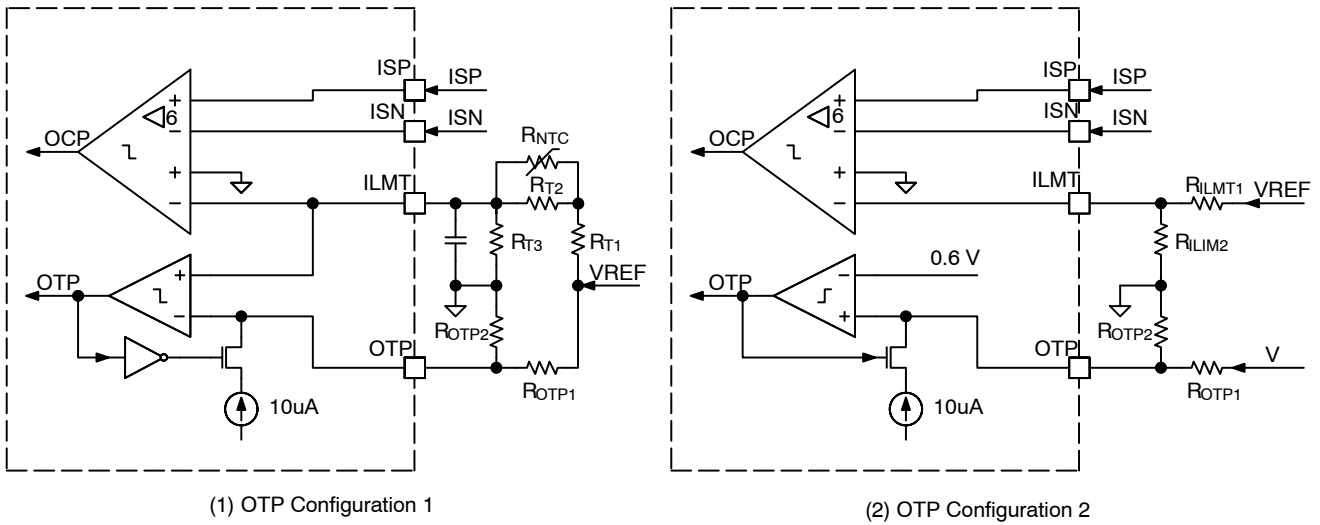

Figure 18. Over-Current Protection and Over-Temperature Protection
The over-current threshold can be externally programmed at the ILIM pin. As shown in Figure 18 (1), a NTC resistor R_{NTC} can be employed for temperature compensated over current protection. The peak current limit per phase can be calculated by
If no temperature compensation is needed, as shown in Figure 18 (2), the peak current limit per phase can be simply set by
With OTP Configuration 1, as shown in Figure 18 (1), the NTC resistor R_{NTC} senses the hot-spot temperature and changes the voltage at ILMT pin. Both over-temperature threshold and hysteresis are externally programmed at OTP pin by a resistor divider. Once the voltage at ILMT pin is higher than the voltage at OTP pin, the NCP81233 turns off both high-side MOSFETs and low-side MOSFETs with all PWM outputs in high impedance and operates in either a hiccup mode or ends in latch-off, which is programmable at MODE1 pin as shown in Table 11. The controller will have a normal start up after a hiccup interval in condition that the temperature drops below the OTP reset threshold. To restart the device after latch-off OTP, the system needs to have
With OTP Configuration 2, as shown in Figure 18 (2), the NCP81233 receives an external signal VT linearly representing temperature and compares to an internal 0.6 V reference voltage. If the voltage is over the threshold OTP happens. The OTP assertion threshold V_{OTP} and reset threshold V_{OTP_RST} in this configuration can be obtained by